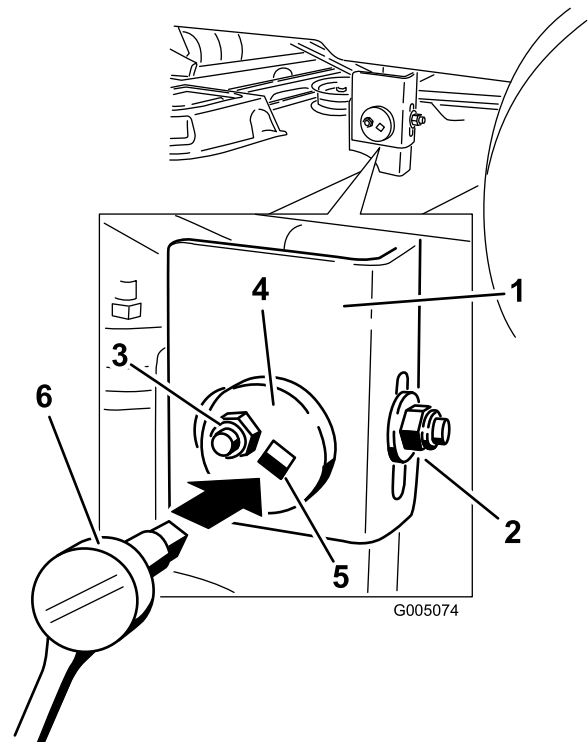

Figure 61
6. Move to the left side of the machine. Loosen, but do not remove, the rear locking nut on the hanger bracket (Figure 61).
7. Loosen the side locking nut on the hanger bracket just enough to allow the eccentric plate to be adjusted (Figure 61). Use a 3/8 inch drive extension on a socket wrench to manipulate the eccentric plate. Use the wrench to reposition the height of the mower deck and adjust it so that the measurements taken in step 5 are within 5 mm (3/16 inch).
8. Stop the deck at the adjusted position and tighten the side locking nut on the hanger bracket to hold the new position (Figure 61). Tighten the rear locking nut on the hanger bracket.